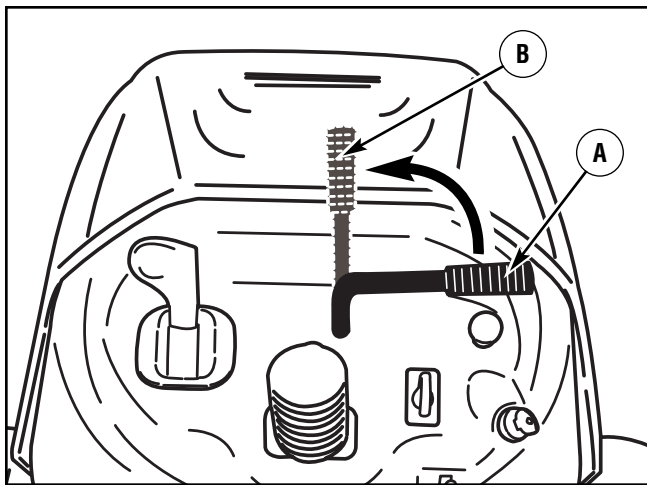

Figure 22: Blade adjustments
2. Move the **blade rotation control** to the **DISENGAGE position** (Figure 22).